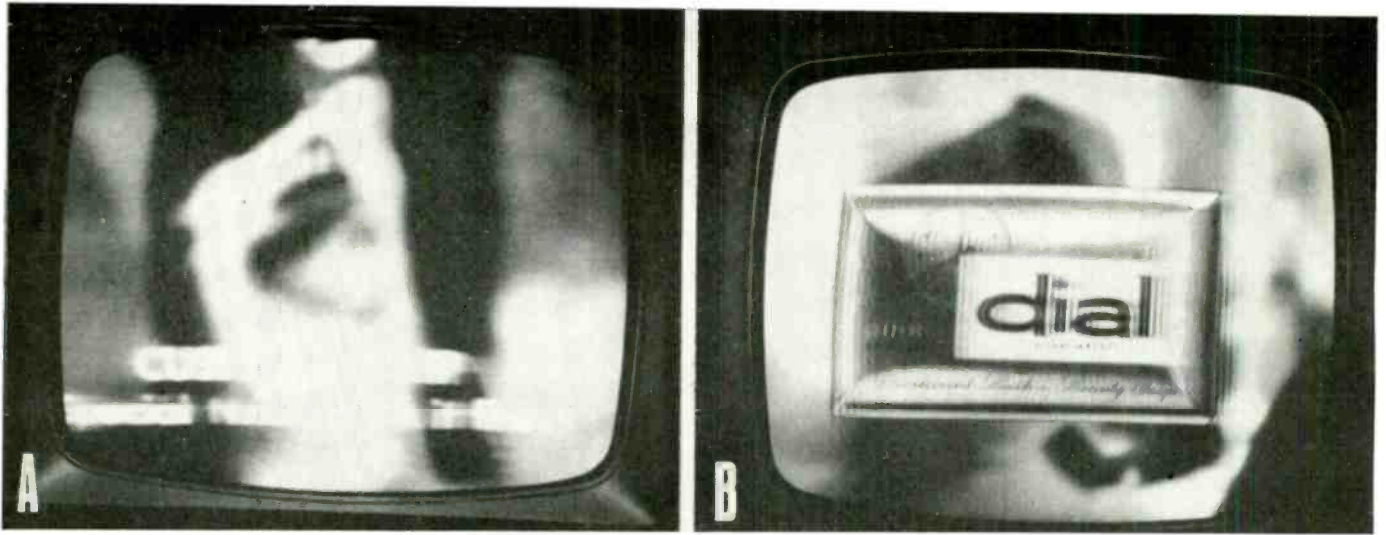

Fig. 1. Screen symptoms that indicate need for TV alignment. (A) Smear, poor definition. (B) Multiple ghosts and ringing.
Fig. 1 shows screen symptoms that suggest a need for alignment. Smears and lack of detail (A) usually indicate poor frequency response in the i.f. strip. On the other hand, multiple ghosts (B) suggest ringing, caused by an over-peaked i.f. response. Poor color can often be traced to misalignment; in bad cases, the color burst may not even get through the i.f. strip. A color set with some of the symptoms of Fig. 1 will often exaggerate them whenever a color program is on.